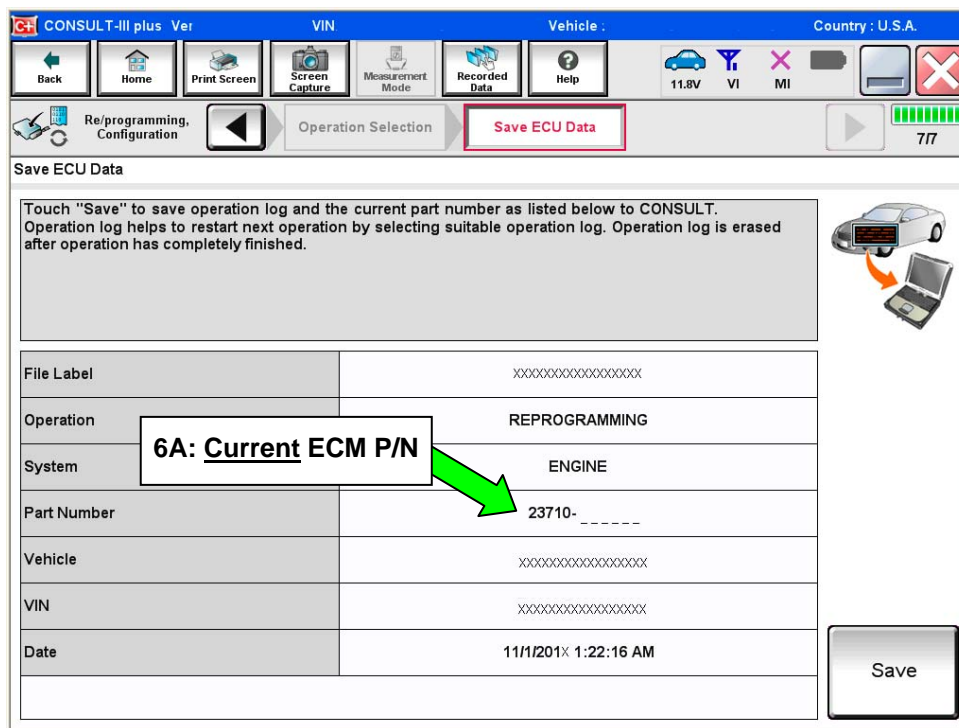

Figure 2
5. Follow the C-III plus on-screen instructions and navigate to the screen shown in Figure 2 on the **next page**.
6. When you get to the screen shown in Figure 2, confirm this bulletin applies as follows.